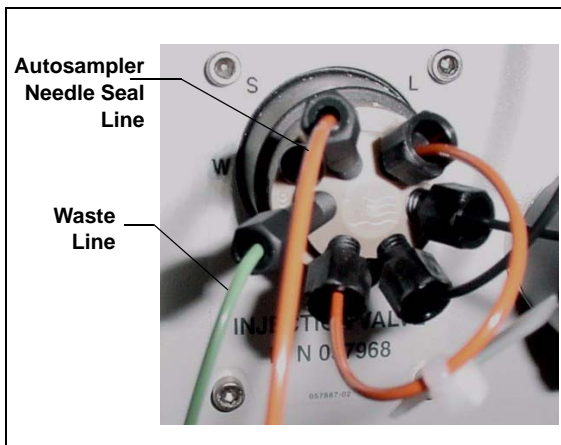
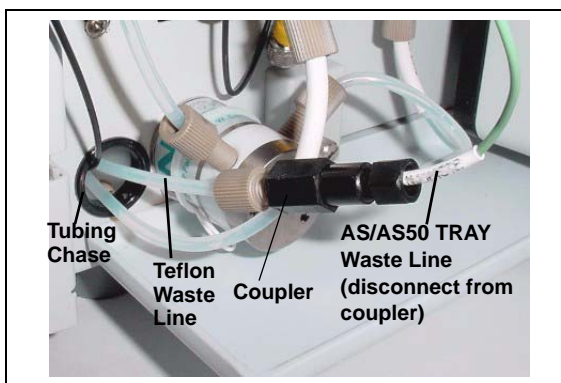

Figure B-105. ICS-2000 Injection Valve
Figure B-106. Injection Valve Waste Line Coupler
4. Connect the needle seal line from the autosampler to port **S (5)** on the injection valve (see Figure B-105).
The green waste line that is connected to port **W (6)** on the injection valve (see Figure B-105) is connected with a coupler to a Teflon waste line (see Figure B-106) and routed through the tubing chase to the ICS-2000 rear panel.